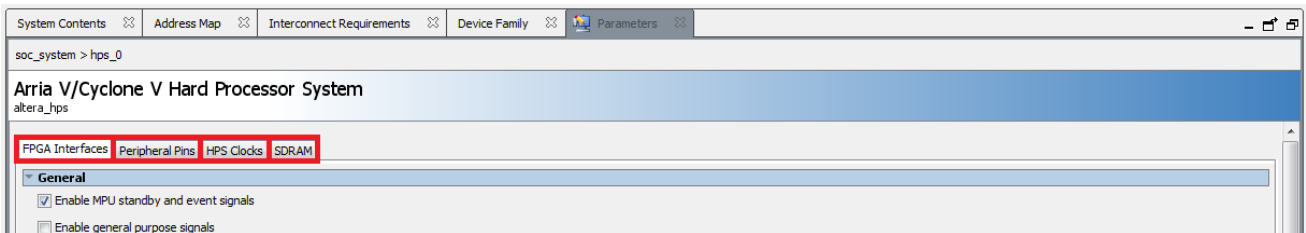

Figure 9-4. HPS Component Parameters
16. Open the HPS’ parameters and have a look around. There are 4 tabs that control various aspects of the HPS’ behaviour, as shown on Figure 9-4.